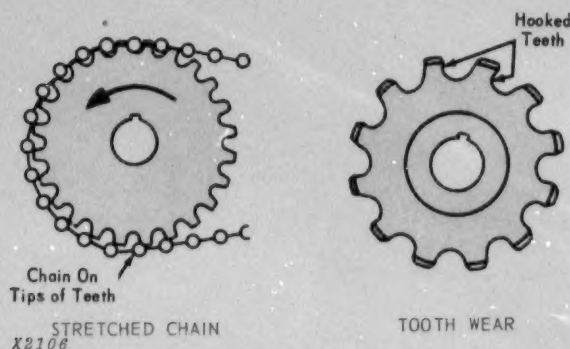

Fig. 25—Problems With Chain Drives
When the shaft or chain tensioner has reached maximum adjustment and the chain begins to ride on the tips of the sprocket teeth (Fig. 25) it may have reached the end of its useful life.
4. Do not install a new chain on badly worn sprockets (Fig. 25). More damage will occur to the chain in a few hours than under years of normal use.